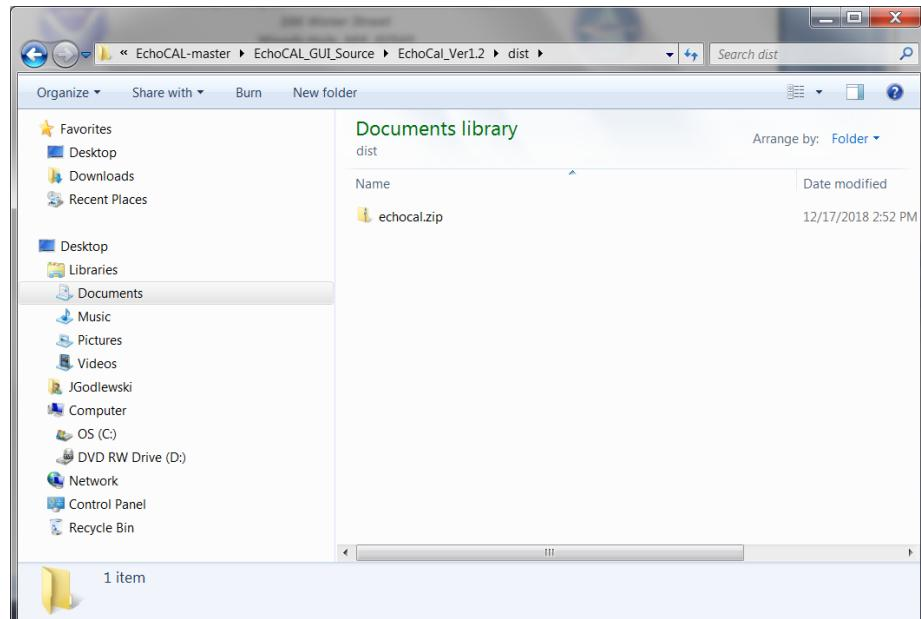

Figure 34: ZIP Distribution Folder for EchoCAL.
- Navigate back to the “EchoCAL-master/EchoCAL_GUI_Source/EchoCAL_Ver1.2/” project folder. When Netbeans created the ZIP distribution of the EchoCAL GUI, it created a new “dist” folder in the main project folder (Figure 34). This folder contains the “echocal.zip” application file.